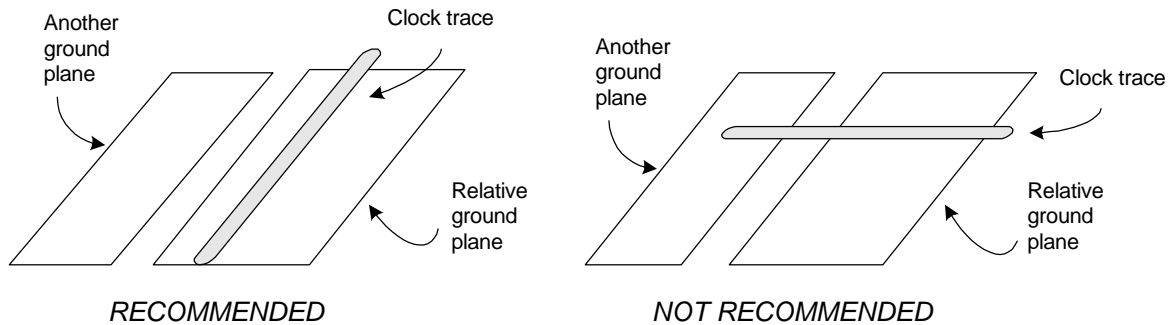

Figure 2-24. Effect of Ground Plane to a Clock Signal
- Clock traces should be parallel to their reference ground planes. That is, a clock trace should be right beneath or on top of its reference ground plane (see Figure 2-24).